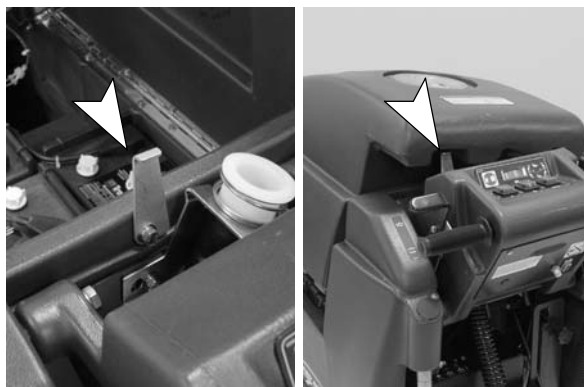

FIG. 31
- Rest the recovery tank on the support stand to promote ventilation during charging (Figure 31).